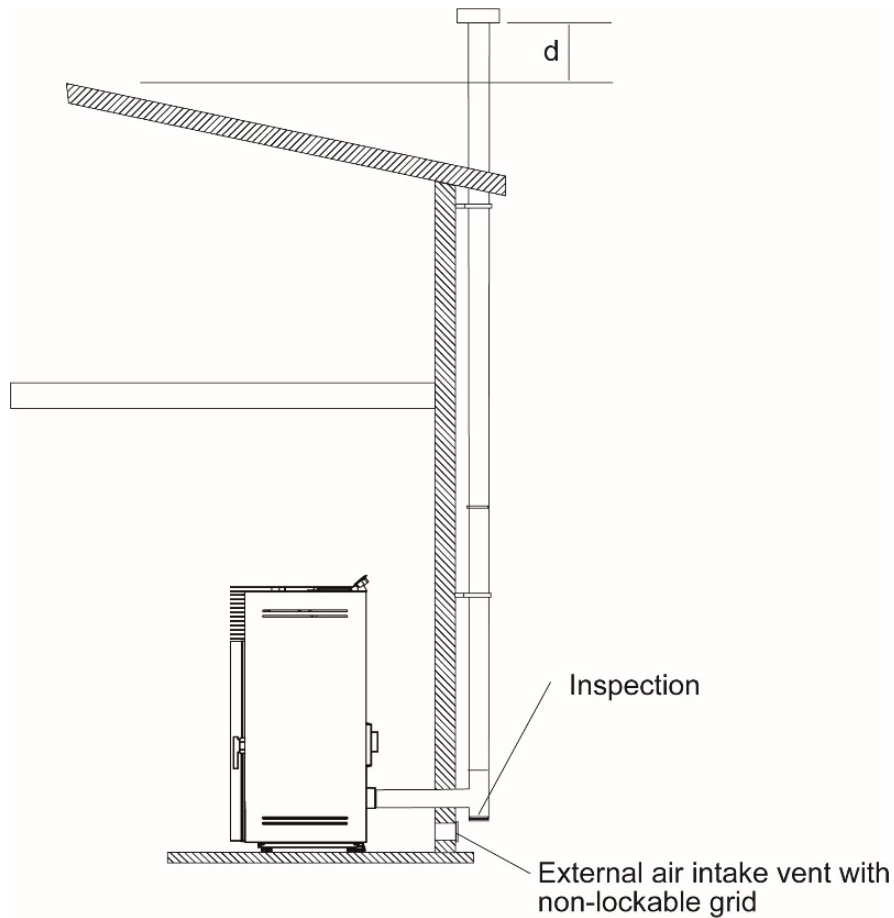

Fig. 13
- Only insulated tubes (double wall) in stainless steel, secured to the building (Fig.13) should be used.
- Fig. 13 shows the solution to be utilised when using external fume ducts.